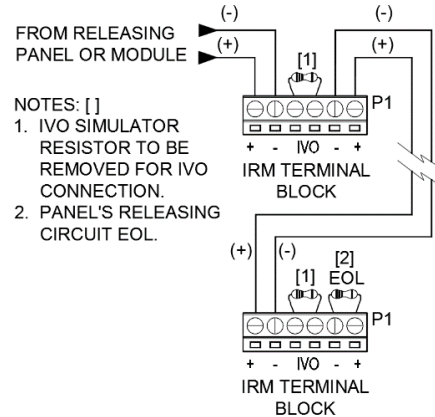
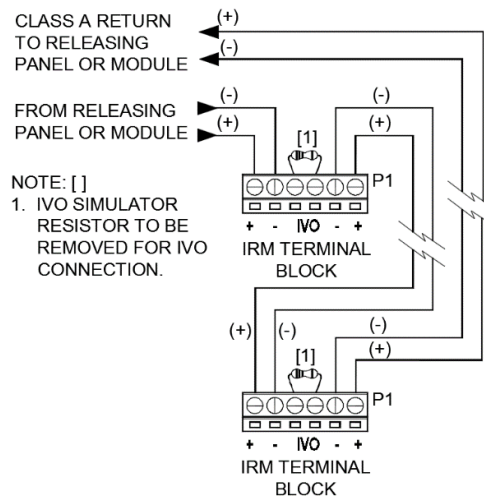

Figure 2 - Class B Wiring
Figure 3 - Class A Wiring
6. Connect the releasing circuit wiring to the IRM module(s) as shown in Figure 2 or Figure 3.
1. Temporarily remove the end-of-line resistor from the last IRM on a Class-B circuit (See Figure 2) or disconnect the Class-A return wire leg on the last IRM (See Figure 3) and verify that a Trouble signal is received by the releasing panel.
5. Connect an Output Analyzer, P/N 10-2983 to the IVO terminals on the first IRM for testing (See Figure 2 or 3).